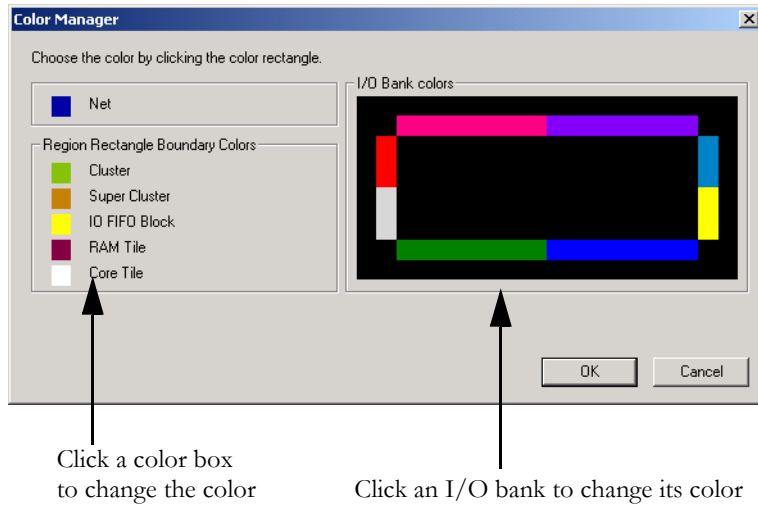

Figure 1-3. Color Manager
1. Click **Color Manager** from the View menu. The color manager dialog box is displayed, as shown in Figure 1-3.